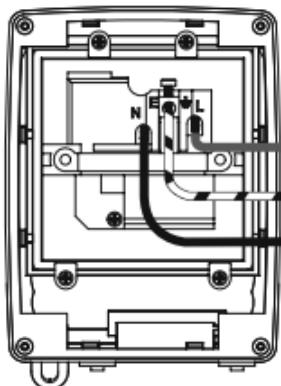

Figure 4
9. Pass though the 230V AC 50Hz mains supply cable and secure the cables tightly to their respective terminals ensuring that all bare conductors are sleeved and that correct polarity is observed, see figure 4, 5 or 6 for the appropriate wiring diagram of your chosen product. Note that if metal conduit is being used the earth continuity between the conduits must be maintained.